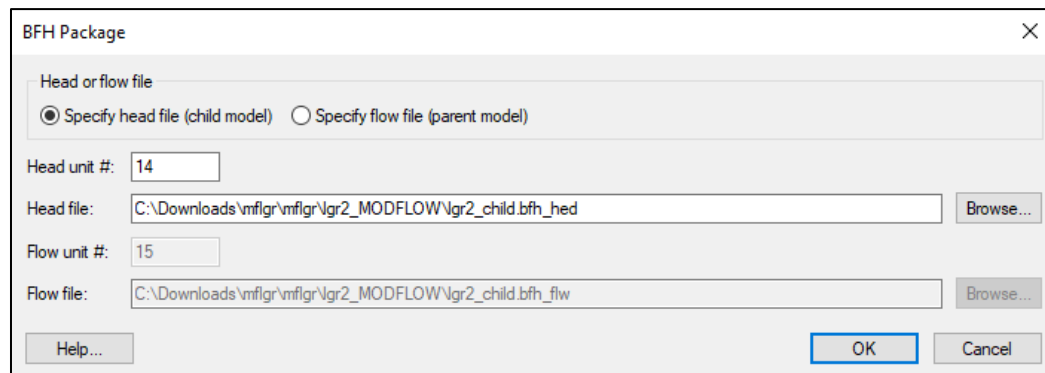

Figure 14 BFH Package dialog
7. Under the "child" grid, right-click on "MODFLOW" and select *Optional Packages / BFH – Boundary Flow and Head* to open the *BFH Package* dialog (Figure 14).